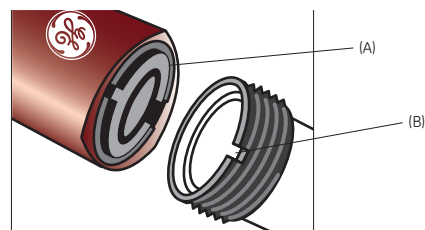

Fig 2. Adapter unit and slot on column tube threads.
7. Screw the guiding ring (Fig. 2, A) inside the adapter unit down to its end position so that it is level with the bottom of the adapter unit (Fig. 2). Screw the guiding ring back 1.5 turns.
8. Screw the adapter unit onto the column tube, ensuring the inner part of the guiding rings fits into the slots on the column threads (Fig. 2, B). Make sure that there are no air bubbles.
1. Screw the guiding ring (Fig. 2, A) inside the adapter unit down to its end position so that it is level with the bottom of the adapter unit (Fig. 2). Screw the guiding ring back one turn.